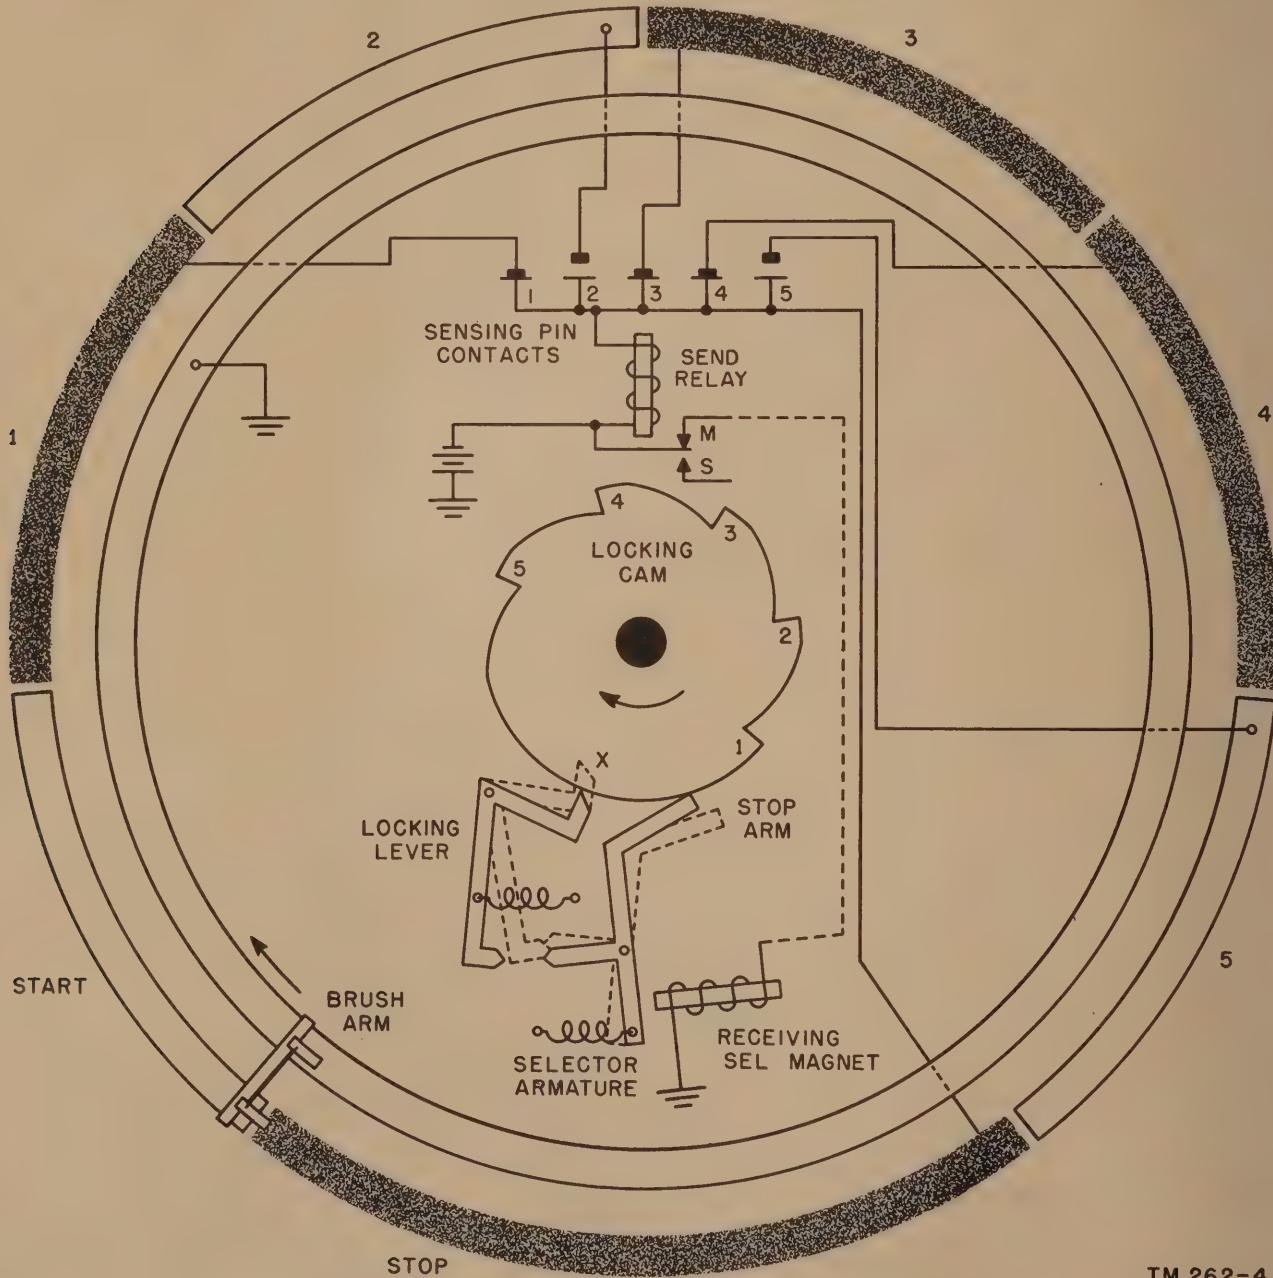

Figure 9. Teletypewriter signal generation and reception.
*a.* Figure 9 is a simplified schematic diagram of the sending and receiving circuits of a teletypewriter. The outer segments represent the seven segments of a distributor which also has an inner single-segment ground ring. The seven outer segments may be identified as
*d.* The code pulses, as received from the line facilities, are presented to the receiving selector magnet one at a time. This magnet, in turn, positions the selector armature to a *mark* or *space* position through the tension of its associated spring. The marking position is illustrated by the solid outline (fig. 9) and the spacing position by the dotted outline of the selector armature. The locking cam is one of seven camming surfaces associated with the receiving cam sleeve. One end of the locking